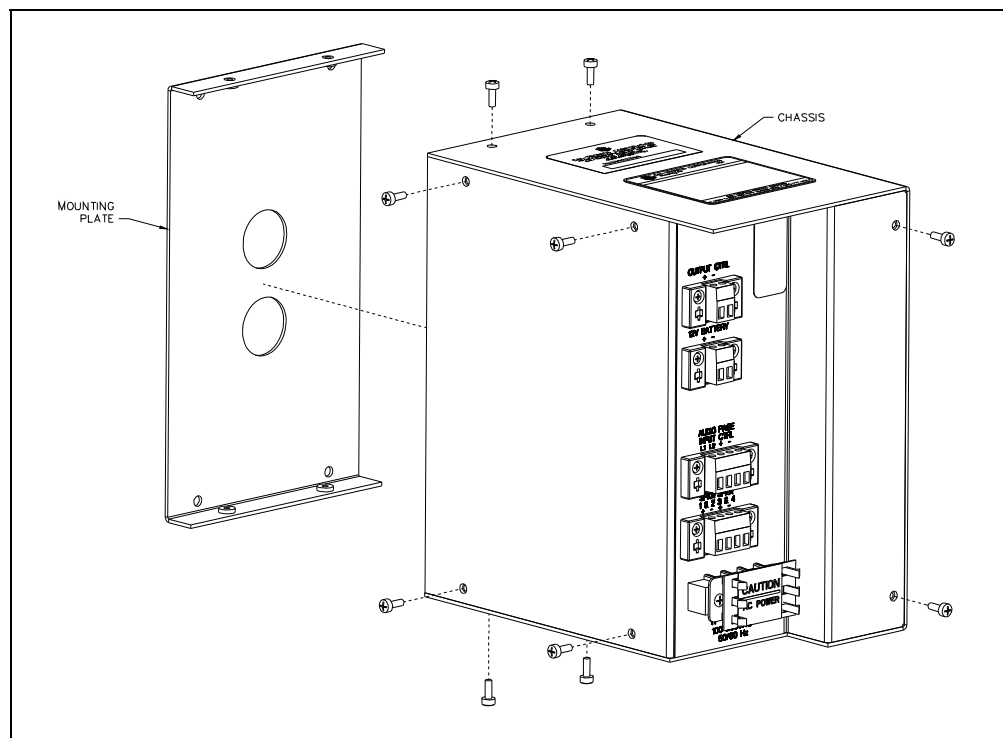

Figure 2. Electronic Paging Module Assembly.
2. Remove the six screws that are holding the chassis together (two on the rear and four on the side). Refer to Figure 2 below.